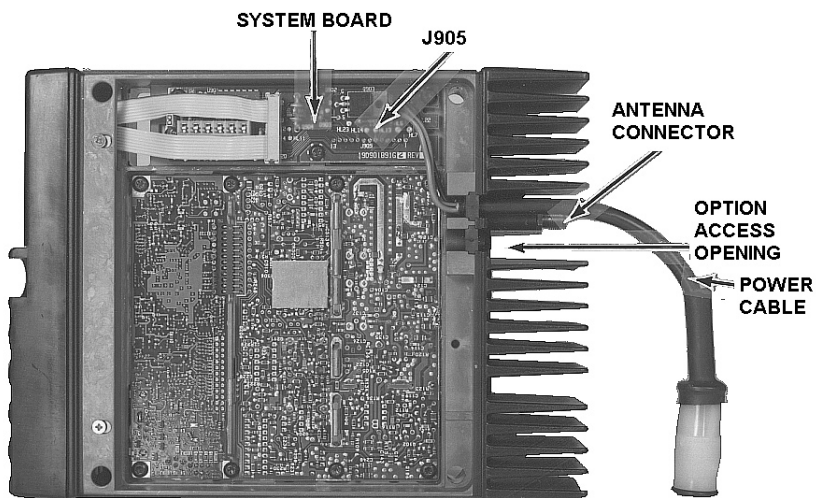

Figure 9 - Bottom View (Cover Removed)
3. Plug the option cable into J905 on the System Board and push the strain relief on the cable into the slotted option access opening. Refer to Figure 9.